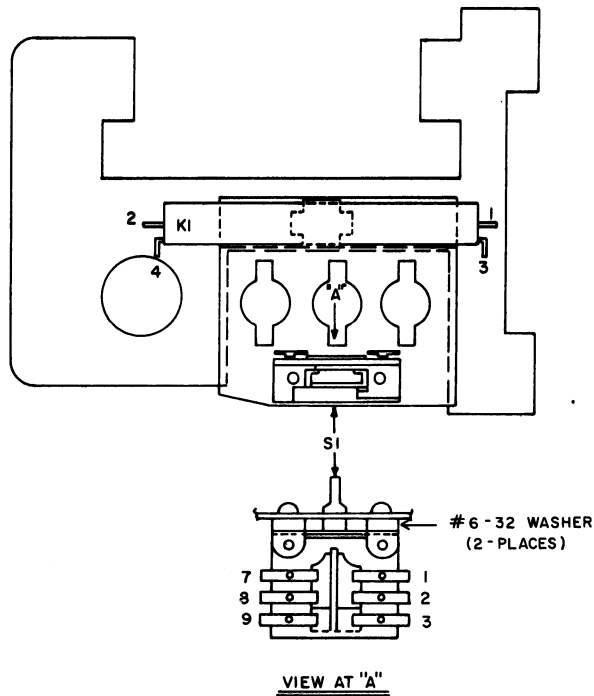

Figure 2
5. Mount Switch (S1) with two screws and washers (provided in the Modification Kit) in the holes below the Transmit light, orienting the terminals toward the bottom of the Control Unit. Washers should be assembled between the Switch and the mounting bracket as shown in Figure 2.